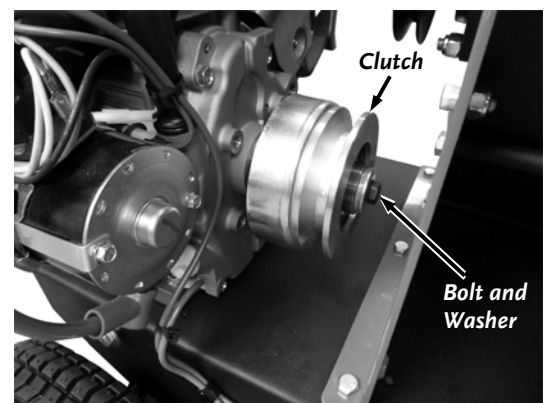

Figure 32
2. Place a 9/16" Wrench onto the Clutch Bolt and rotate the Wrench counterclockwise until you feel some resistance (**Figure 32**).